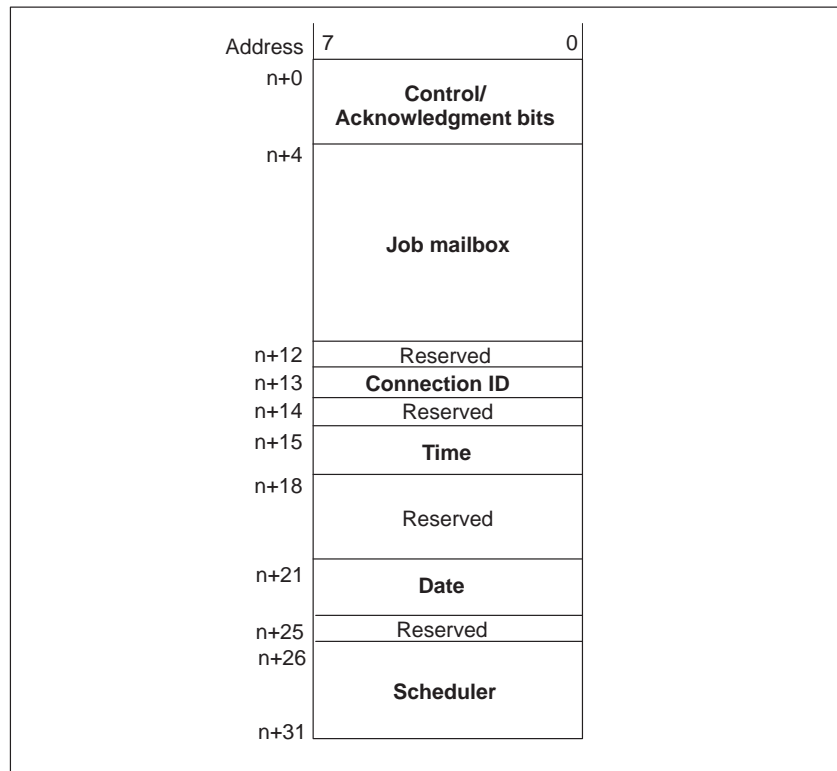

Figure 13-1 Layout of interface area for SIMATIC S7
- Layout of interface area** Figure 13-1 shows the layout of the interface area. You can create the interface area in a data block or a bit memory address area. You must also specify the address of the interface area in the configuration. This is necessary so that the operating unit knows where to find the data.